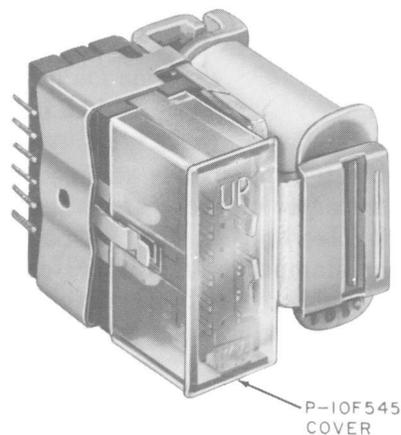

Fig. 1—6-Position Relay—General View
2.01 Fig. 1 and 2 show the various piece-parts in their proper relation to other parts of the relay. The piece-part numbers of the various parts are given together with the names of the parts as listed by the Western Electric Company Merchandise Department. When these names differ from those in general use in the field, the latter names in some cases are shown in parentheses).